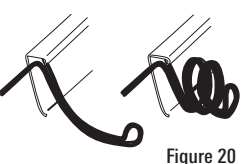

Figure 20
**Excess Cable:** If there is excess cable that needs to be gathered at one location, dress the cable routed from both directions so that a single loop is left extending from the storage location. Doubling the cable up from this point, form the cable into a coil. Storing excess cable using this method can reduce electronic interference (Figure 20).